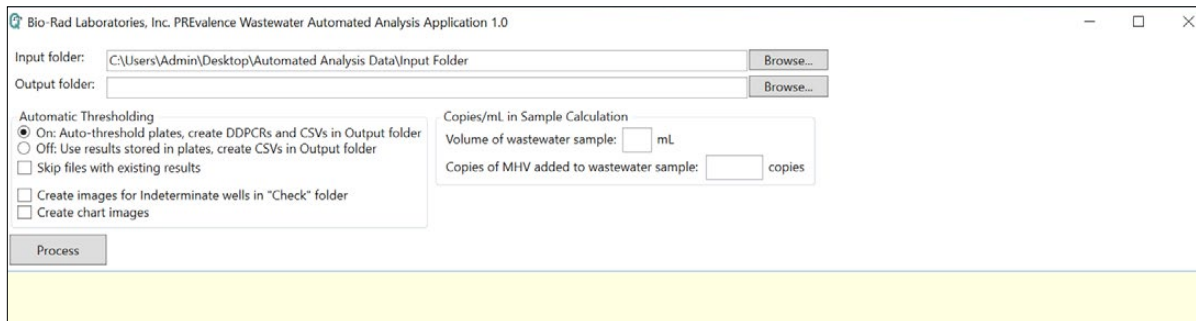

Fig. 6. Input folder specified with file path.
- Now select the **Input Folder** created in step 2h and click **OK**. You will be returned to the tool's main interface (Figure 6).